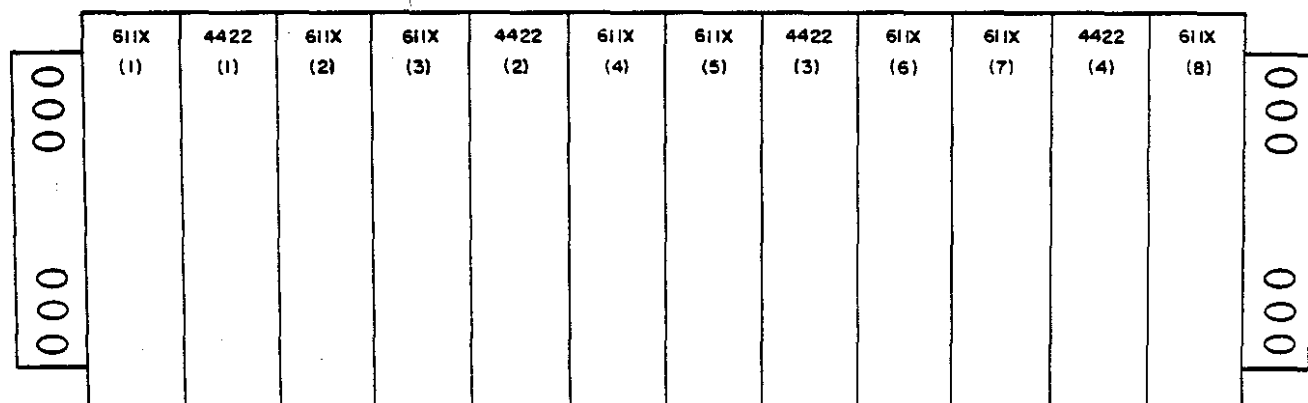

figure 5. 272R module positions
3.06 After the modules are properly ~~optioned~~, install them in their proper positions in the 272R Assembly as shown in figure 5.